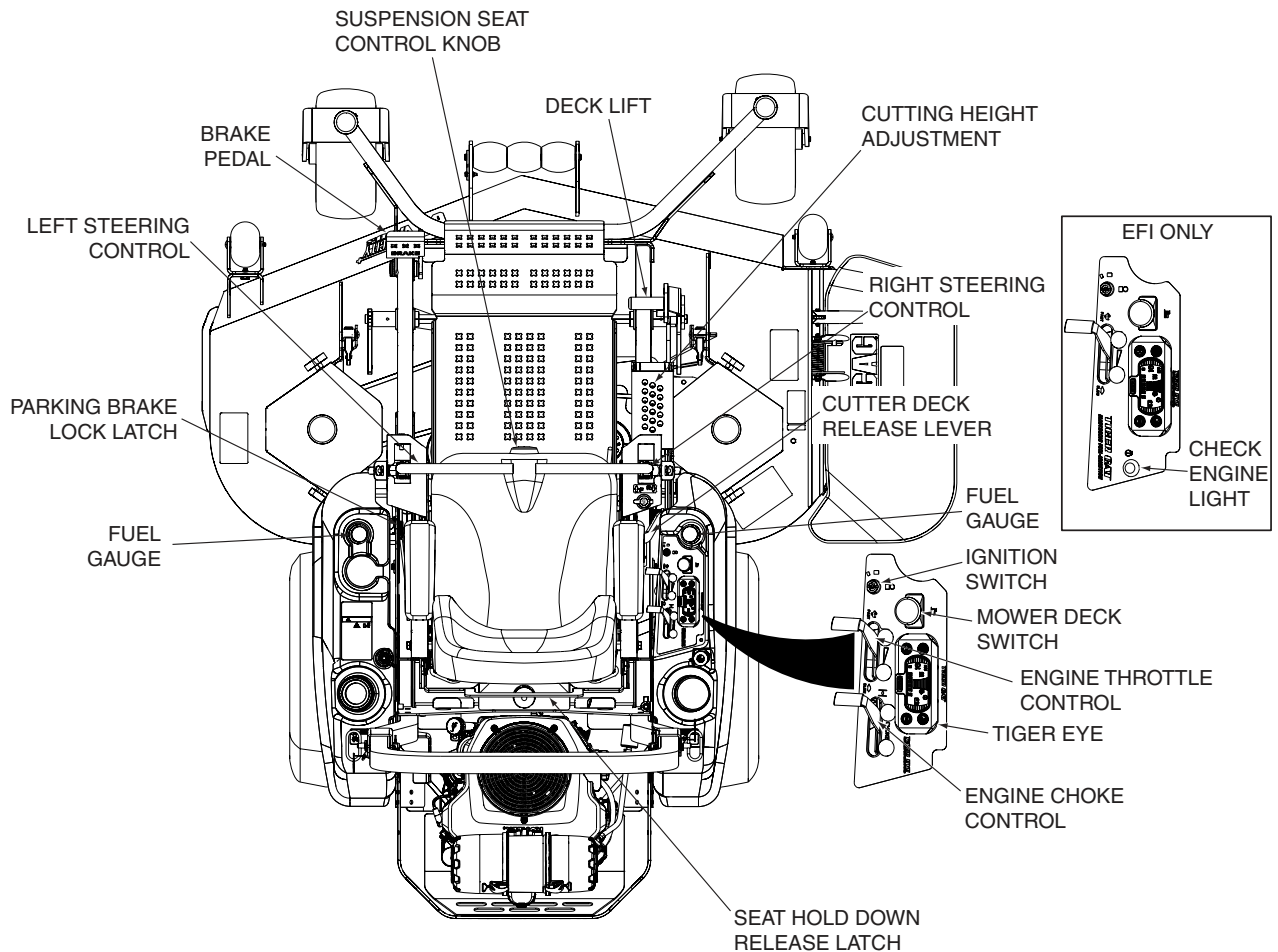
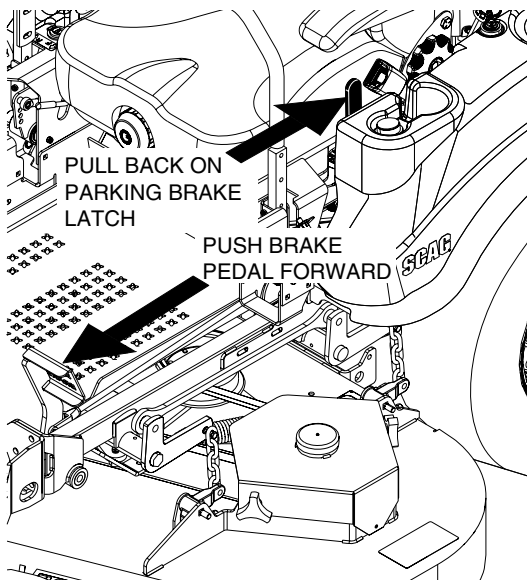
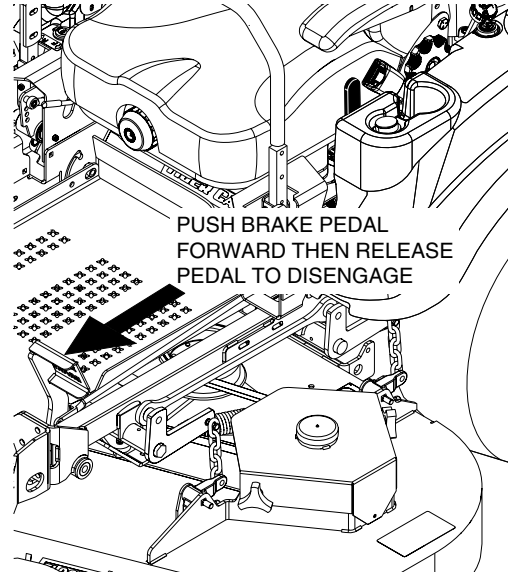
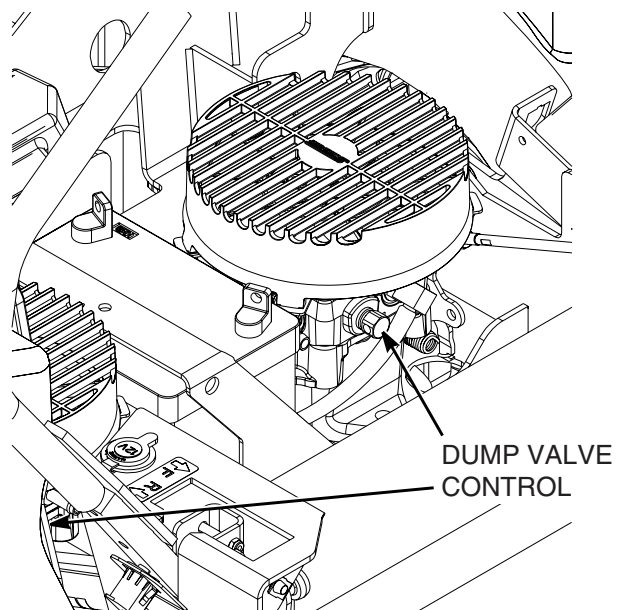

Figure 4-2. Controls and Instruments
Figure 4-3. Engaging Parking Brake
Figure 4-4. Releasing the Parking Brake
Figure 4-5. Dump Valve Control
12. **Fuse Holders (Figure 4-2).** Two 20-amp fuses protect the mower's electrical system. To replace fuses, pull fuse out of the socket and install a new fuse.
1. **Ignition Switch (Figure 4-2).** The ignition switch is used to start the engine and has three positions; OFF, ON, and START.
2. **Mower Deck Switch (Figure 4-2).** Used to engage and disengage the mower drive system. Pulling up on the switch will engage the deck drive. Pushing down on the switch will disengage the deck drive.
3. **Engine Choke Control (Figure 4-2).** Used to start a cold engine.
4. **Engine Throttle Control (Figure 4-2).** Used to control the engine speed. Pushing the lever forward increases engine speed. Pulling the lever back decreases engine speed. Full back position is the IDLE position. Full forward is the cutting position.
5. **Left Steering Control (Figure 4-2).** Used to control the mower's left wheel when traveling forward or reverse.
6. **Right Steering Control (Figure 4-2).** Used to control the mower's right wheel when traveling forward or reverse.
8. **Parking Brake Lock Latch (Figure 4-2).** Used to lock the parking brake in the engaged position. Fully depress the brake pedal and pull the parking brake lock latch back to lock the parking brake in the engaged position. See Figure 4-3. Fully depress the brake pedal forward to disengage the parking brake lock latch, then release the brake pedal to disengage the brake. See Figure 4-4.
9. **Fuel Tank Gauge (Figure 4-2).** Indicates the amount of fuel in the fuel tank.
10. **Dump Valve Control Levers (Figure 4-2).** Located on the hydraulic pumps, used to "free-wheel" the mower. Rotating clockwise until they stop allows the unit to move under hydraulic power. The levers must be in this position and torqued to 10 lb-ft during operation of the mower. Rotating counter-clockwise allows the mower to be moved by hand (free-wheeling). See Figure 4-5.
11. **Deck Lift Foot Lever (Figure 4-2).** Used to raise and lower the cutter deck. Push full forward to lock in the transport position.
12. **Cutting Height Adjustment (Figure 4-2).** Used to set the cutter deck at the desired cutting height.
13. **Deck Release Lever (Figure 4-2).** Used to lock the cutter deck in the transport position. Push the foot pedal forward and pull back on the release lever to release the cutter deck for normal mowing.
14. **Seat Suspension Control Knob (Figure 4-2).** Used to select the optimum suspension rate based on the operator.
15. **Seat Belt (Figure 4-2).** Used to secure the operator. Seat belt must be worn at all times when the ROPS is in the upright and locked position.
16. **Seat Hold Down Release Latch (Figure 4-2).** Located behind the seat. Used to secure the seat in the operator's position. Release the latch to gain access under the seat.
17. **Fuel Switching Valve (Figure 4-2).** Located on the left side of the machine. Used to shut off fuel supply to the engine and change fuel supply between the fuel tanks. Rotate the valve counter clockwise to supply fuel from the tank on the left side only. Rotate the valve clockwise to supply fuel from the tank on the right side only.
2. Engage the deck drive by pulling up on the yellow switch, located on the instrument panel, to the engage position. See Figure 4-3.